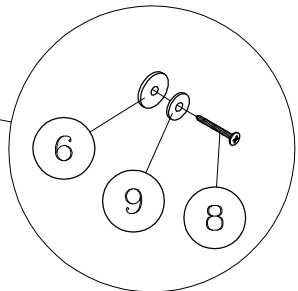

FIG. 1
MOUNTING 251720/251723 MUDGUARDS ON THE FRONT OF THE VEHICLE: (SEE FIG. 1)
3. USING TWO M4.2 X 30MM SEMS SCREWS (ITEM #13), TWO BLACK FENDER WASHERS (ITEM #6) ATTACH THE MUDGUARD (TO THE FENDER AS SHOWN IN FIG. 1. LEAVE THESE FASTENERS LOOSE AT THIS TIME. **NOTE: FOR VEHICLES WITH FACTORY FENDER FLARES USE TWO 8-15 X 1.75 PAN HEAD SCREWS (ITEM #8), TWO SST FLAT WASHERS (ITEM #9) AND TWO BLACK FENDER WASHERS (ITEM #6) INSTEAD OF THE M4.2 X 30MM SEMS SCREWS.**
6. USING A 1/4-20 X 1.5" ALUMINUM HEX HEAD SCREW (ITEM #3), A 1/4" ALUMINUM FLAT WASHER (ITEM #5), A BLACK FENDER WASHER (ITEM #6), AND A 1/4-20 ALUMINUM LOCK NUT (ITEM #4) ATTACH THE MUD GUARD TO THE FENDER AS SHOWN IN FIG. 1.